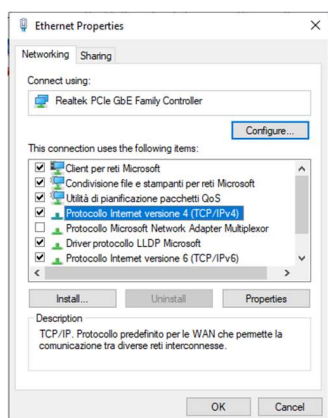
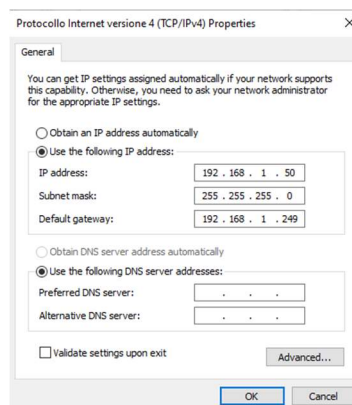

Fig. 6
Fig. 7
7. From the Ethernet properties menu (Fig.6), select "Internet Protocol version 4 (TCP / IPv4)" and press the "Properties" button which will be enabled in the meantime. The screen in Fig. 7 will open.
- 13. Select "Network" from the Configurations menu to set the MDB-E network parameters in accordance with those of your Ethernet network. For example, if in the original screen of Fig.7 the IP address was 192.168.10.1, set MDB-E to 192.168.10.101 (Fig.9).